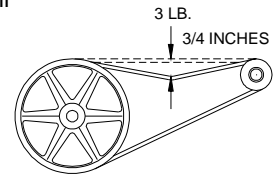

FIG. 8
- **Check belt tension.** A 3 lb. force should deflect the belt 3/4 inches (see Fig. 8). Readjust belt if needed.